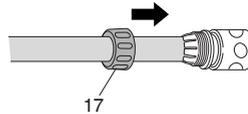

Fig. 17
- Remove the ring (17) from the coupler, slide the ring over the hose and insert the hose into the coupler. (Fig. 17)